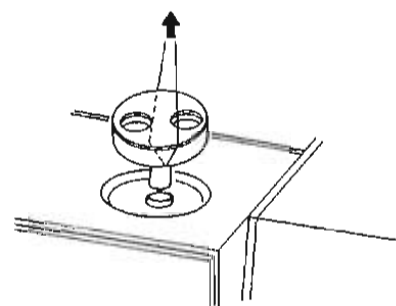

Fig. 3
* When removing the tuning knob, hang the string as shown in the Fig. 3 and pull it out.
- 2) After removing the nine screws (A), remove the front case by carefully lifting it from the rear case.